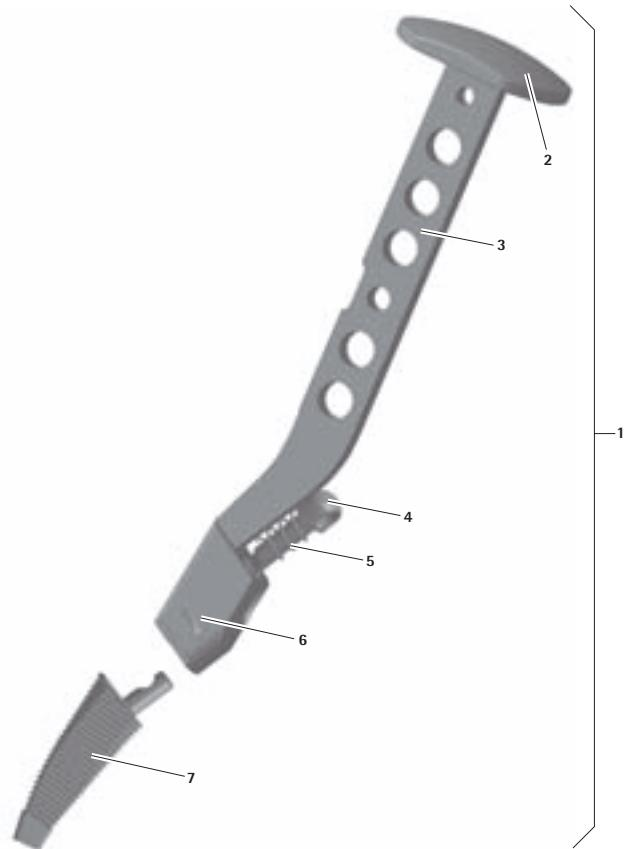

Fig. 1
- Slide rasp 7 in the handle part 3, see Fig. 1, making certain that the notch in the rasp connector points towards the push button.